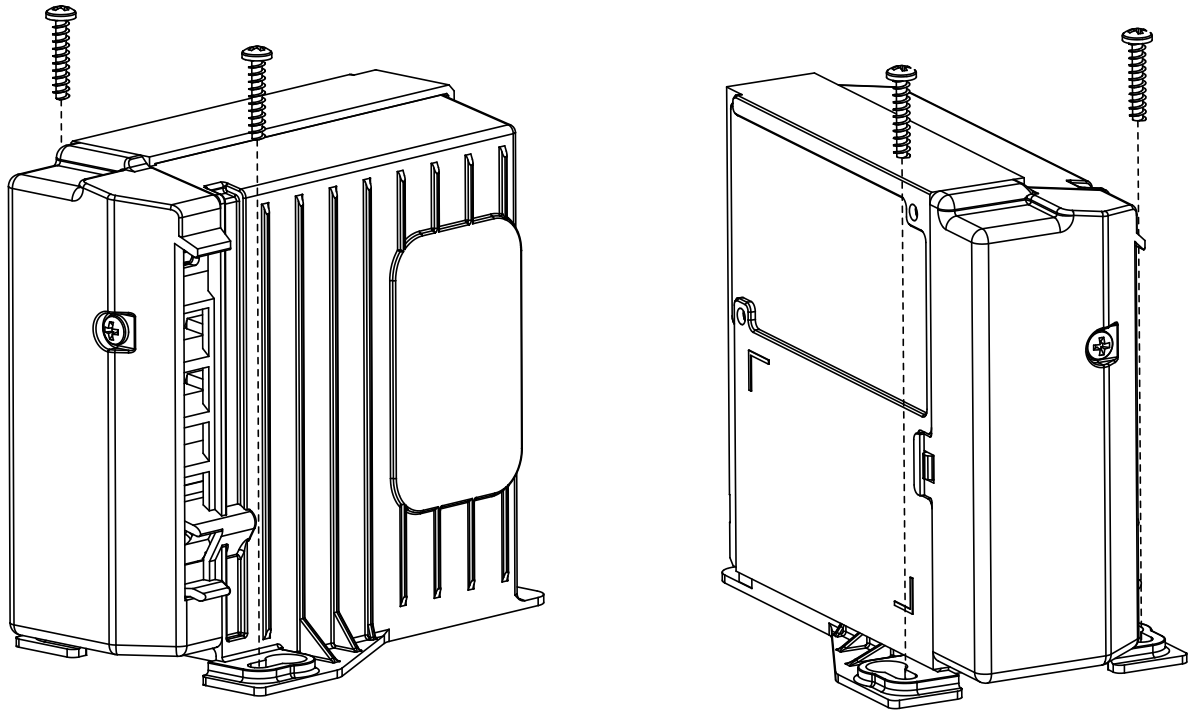

Figure 3-4: Inverter fixation for stand alone version
The inverter must be fixed at all the fixation points indicated in the Figure 3-4, using screws to the appliance frame using the dedicated mounting holes located on the inverter's plastic enclosure.
- The screws shown in Figure 3-4 are for reference only to indicate the fastening positions. Secure the inverter using a screw or washer with a minimum diameter of 10 mm. Tighten to a torque of 1.5 – 2.0 Nm.